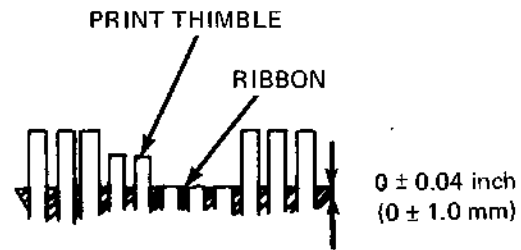

Figure 5-6 Characters Visible Position
- d. Verify that the gap between the ribbon top edge and the top of the short fingers of the print thimble is 0 inch  $\pm$  0.04 inch (0 mm  $\pm$  1.0 mm) (see Figure 5-6).